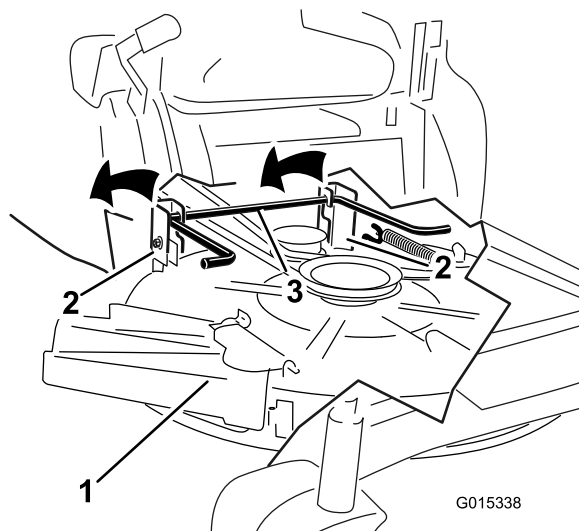

Figure 64
- 6. Lift the mower deck and hanger brackets clear of the rear lift rod, and lower the mower carefully to the ground (Figure 64).
5. Lift the rear of the mower deck and guide the hanger brackets over the rear lift rod (Figure 64).